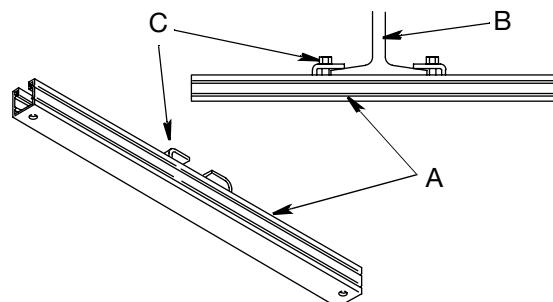

FIG. 26
For the following Steps, refer to FIG. 26.
7. Line up the 4 holes on the hose reel mounting base with the holes near the ends of the mounting brackets (A) and securely bolt the hose reel to the mounting brackets (FIG. 26).
9. Position the adjustable clamps (C) of the mounting brackets on the flanges of the I-beam (B) (FIG. 26). Securely tighten clamps to 10 ft. lbs (13.5 N.m).